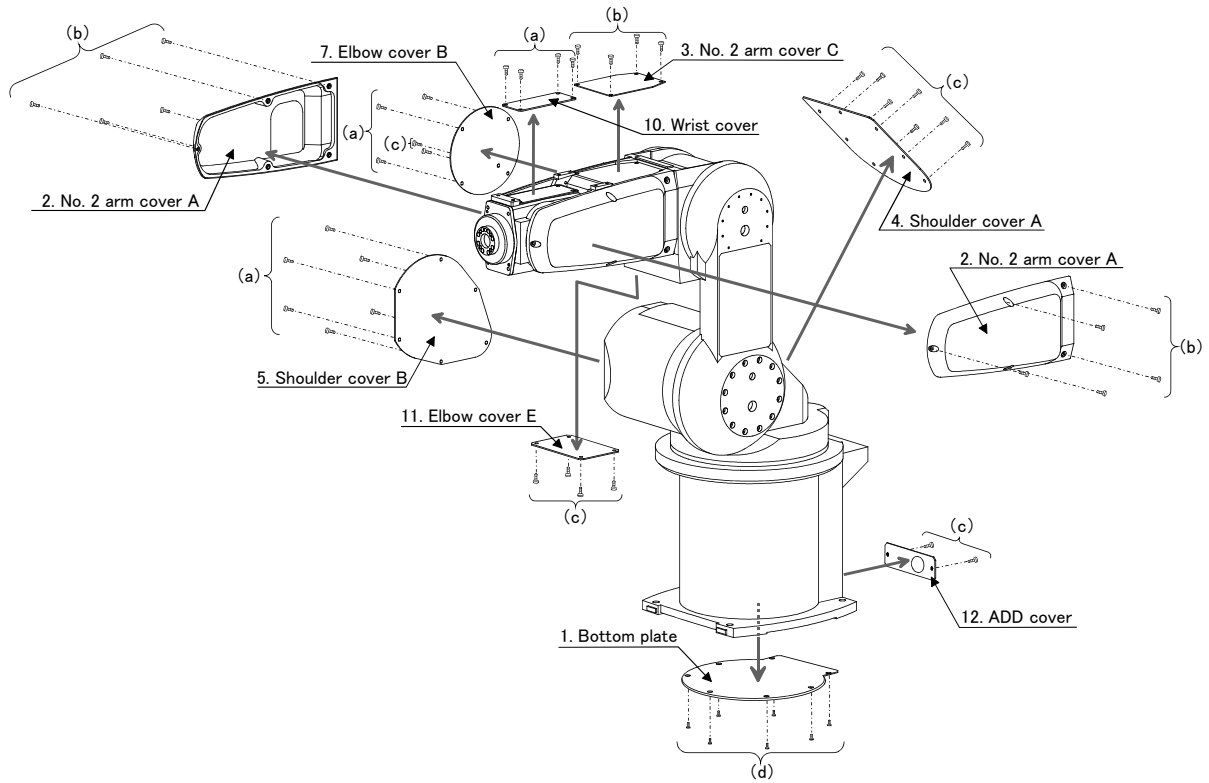
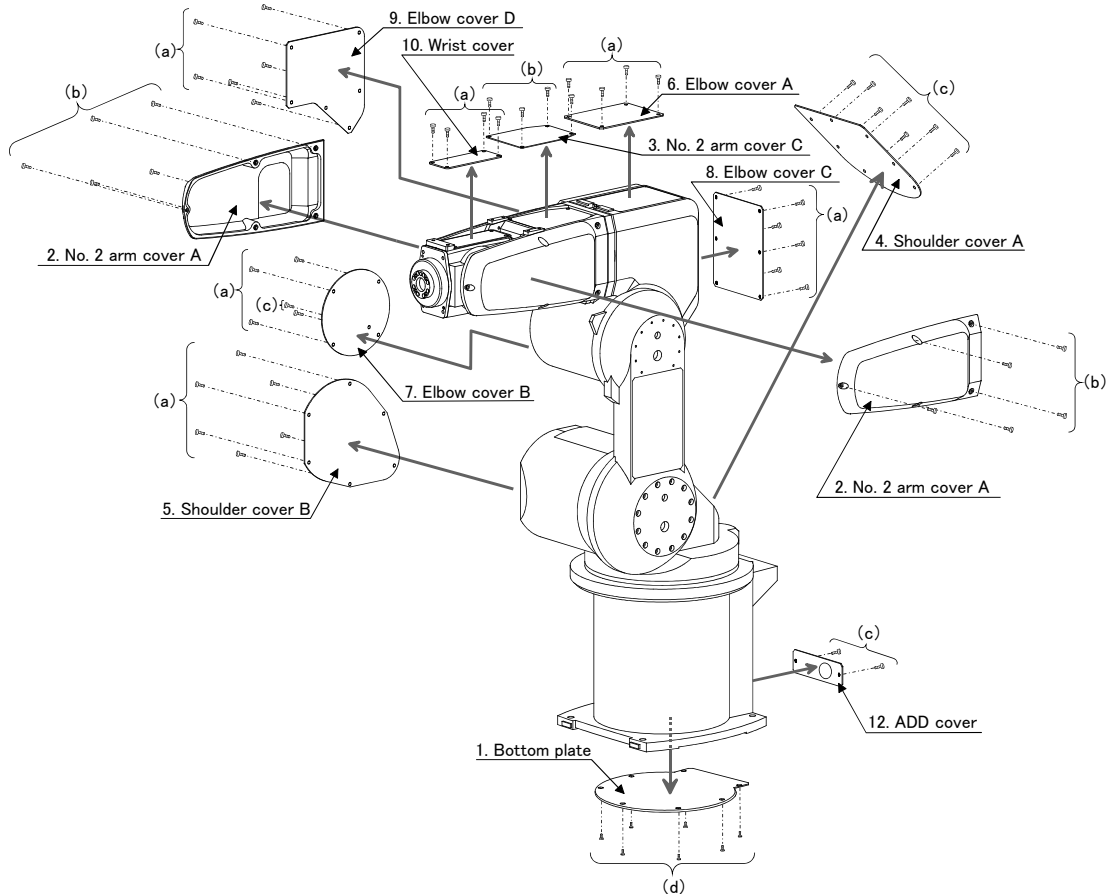

Fig.5-4 : Installing/removing the cover (5-axis type)
Fig.5-5 : Installing/removing the cover (6-axis type)
- (1) Refer to Fig. 5-4 when using the 5-axis type robot arm, and Fig. 5-5 when using the 6-axis type robot arm, and remove the cover.
- (2) The names of the covers are given in Table 5-3, and a list of the cover installation screws is given in Table 5-4.
- (3) There are some covers that may be difficult to remove due to the robot posture. In this case, change the robot posture with jog operation, and then remove the cover. If the minus driver is inserted, it will be easy to remove the cover. Be careful not to damage packing.
- (4) When attaching the cover after maintenance and inspection, use the detaching procedure in reverse.
The part Nos. and symbols in Table 5-3 and Table 5-4 correspond to Fig. 5-4 and Fig. 5-5.